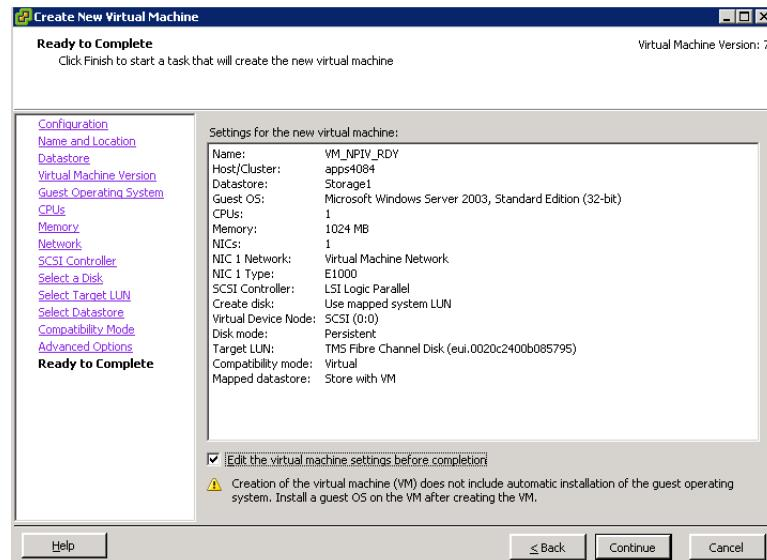

Figure 5-43. Create New Virtual Machine—Ready to Complete
11. Complete the creation process by clicking **Edit the virtual machine settings**, and then click **Continue** (Figure 5-43).